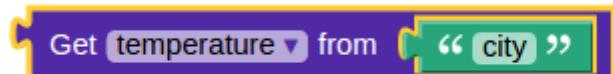

Figure 147: Get Temperature Block
*Get temperature from []* (Figure 147):